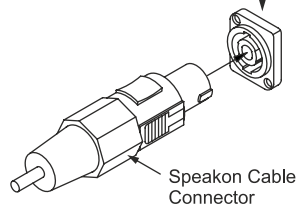
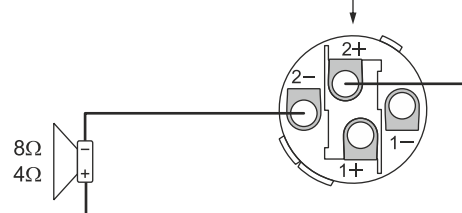

**Fig. 3** Output Connections - Stereo / Mono Mode
**Fig. 4** Output Connections - Bridge Mode
In STEREO / MONO mode amplified signal is available at Pin 1+ & 1- of speakon connector. The output speakon connectors should be wired as per fig. 3 (*Output Connectors for Stereo / Mono Mode*). In BRIDGE mode the output is taken from Pin 2+ and 2- of speakon connector. Output speakon connectors to be wired as per fig. 4 (*Output Connections for Bridge Mode*).
Amplified signal is available at Pin 1+ & 1- of speakon connector. The output speakon connectors should be wired as per fig. 3 (*Output Connectors for Stereo / Mono Mode*).
- Connect a speaker system VS-300 (4 ohm) on the Binding Post terminal of each channel. It is recommended to use the speakon connectors and wire these as per fig. 3 (*Output Connections for Stereo / Mono Mode*).
- Connect a speaker system 2xVS-200 on the output terminal of each channel. It is recommended to use the speakon connectors and wire these as per fig. 3 (*Output Connections for Stereo / Mono Mode*). (Resultant impedance of 2xVS-200 is 4 Ohm).
- Connect a speaker system SWX-1000 (Imp 8ohm) on the speakon output of channel A only. It is recommended to use the speakon connectors and wire these as per fig. 4 (*Output Connections for Bridge Mode*).
- One number of full range loudspeaker system VS-300 can be connected to each of the output channels of amplifier 1. The output speakon connectors should be wired as per fig. 3 (*Output Connections for Stereo / Mono Mode*).
- One no. each of high powered subwoofer system SWX-1000 can be connected to the channel A outputs of amplifiers 2 and 3. Output speakon connectors to be wired as per fig. 4 (*Output Connections for Bridge Mode*).